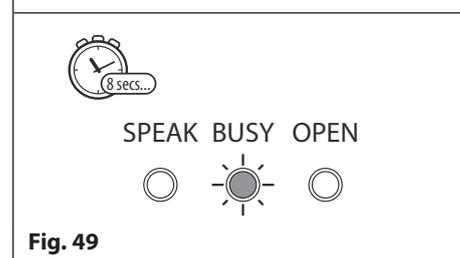

Fig. 49
5. After approximately 8 seconds the busy LED will start to flash as shown in **Fig.49**;